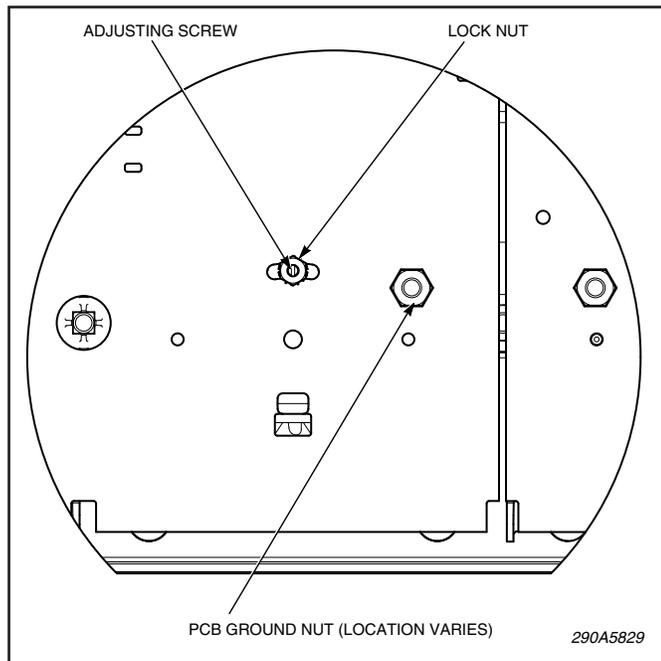

Figure 3.
C. *Halogen Lamp Adjustment (see figure 3).*
See figures 3 and 4. Remove top per paragraph V.B. Remove PCB ground nut, then invert PCB to access lamp. See the replacement parts list and replace the defective lamp with an exact replacement only. Assemble in reverse order. Do not overtighten nuts.
G. *PCB Replacement (see figures 3 and 5).*